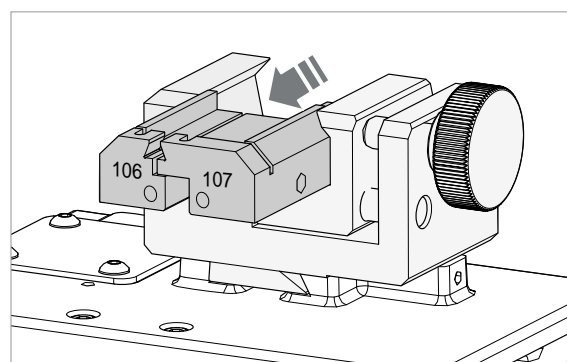

Fig. 43
- 3) Use your fingers to pull the jaw to be removed out towards the operator (Fig. 43).